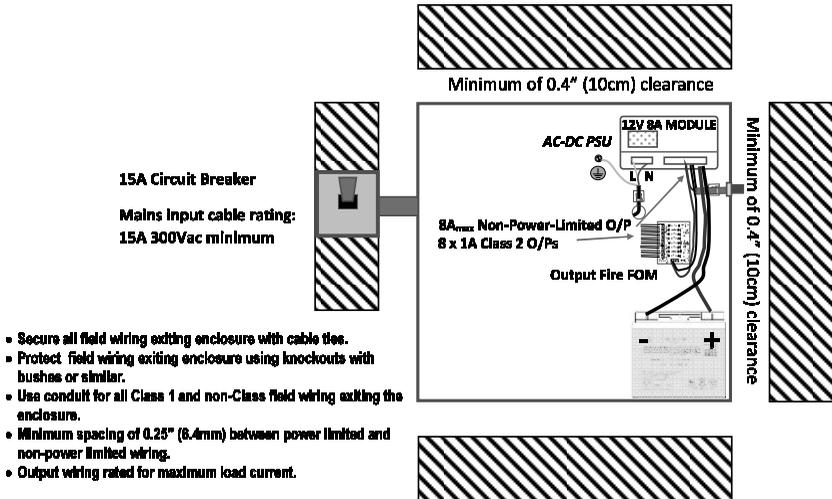

Fig. 1 Mounting of Power Supply
- 1) Mount enclosure securely in the correct orientation allowing minimum clearance – see Fig. 1